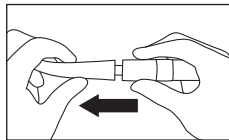

Fig. 11
- 5) Remove the handpiece from the motor. (Fig. 11)